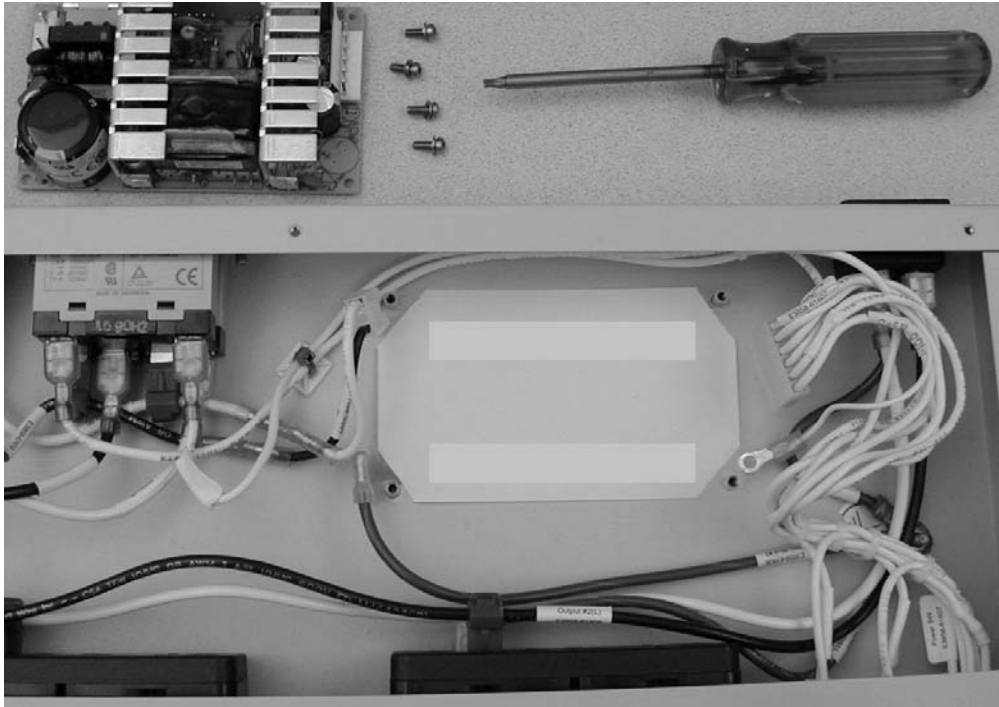

Figure 5. Optional Modification to the ESD Protector.
- Optionally, using a pair of scissors cut the corners of the plastic ESD protector as shown in Figure 5. Use two strips of double-sided tape to attach the ESD protector to the chassis.